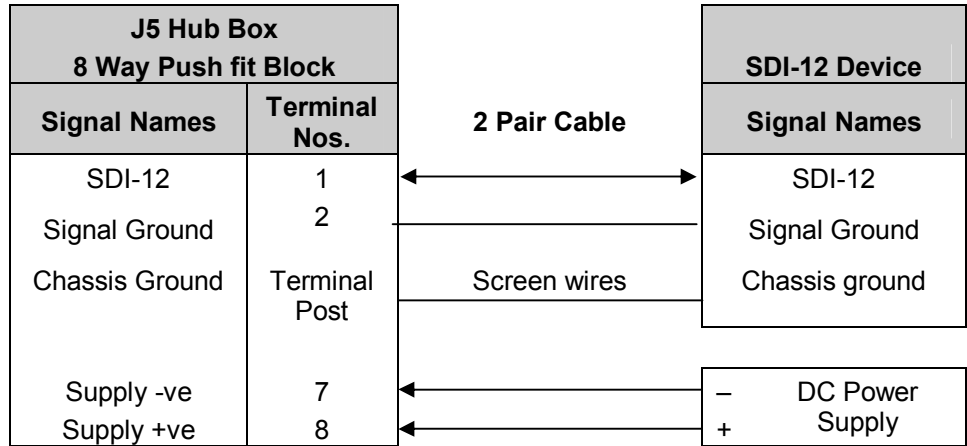

Figure 9 SDI-12 connections
- SDI-12                                      Figure 9